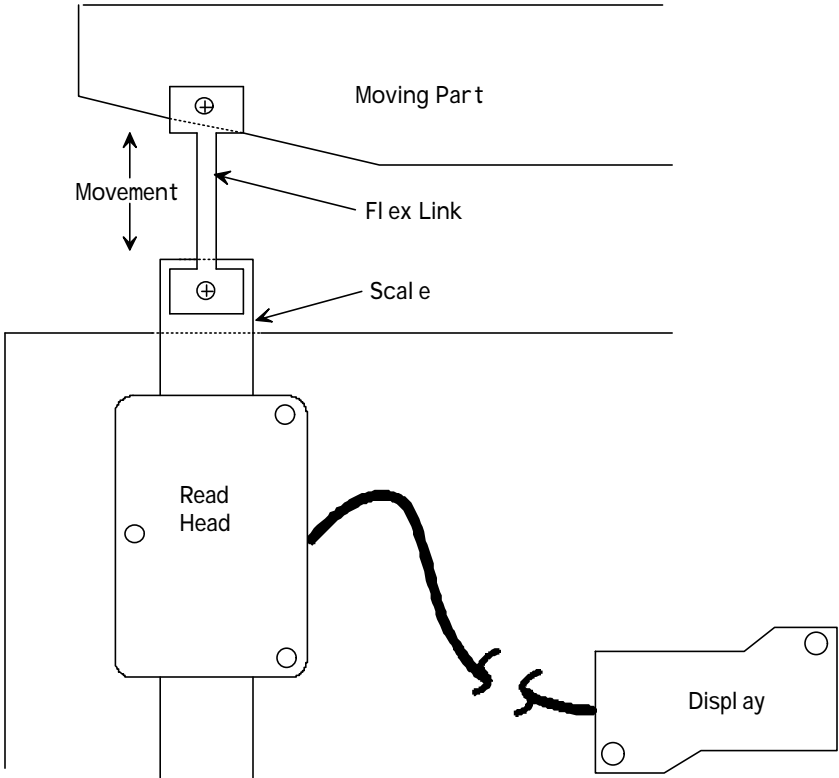

Figure 2-1. A Typical Installation
1. Determine appropriate mounting locations. Place the read head in a location that will allow the scale to be inserted in the read head and attached via the flex link to the moving part of the target machine. Place the display housing in a location where the display will be easy to read. The locations you choose should also safeguard the cable from damage. See Figure 2-1.